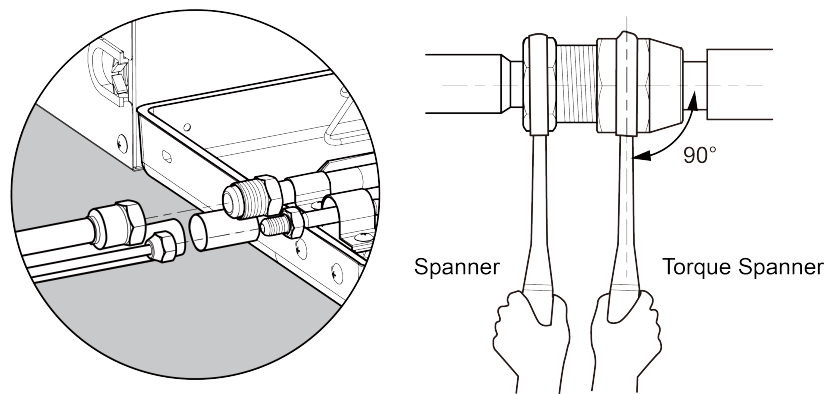

Fig. 3.4.1
- (1) Before welding the pipeline sealing cap, please make sure there's no refrigerant in pipeline. If welding it directly, it may cause unnecessary property damage or personal injury.
- (2) Conform to the following principles during pipe connection: Connection pipeline should be as short as possible. The height difference between indoor and outdoor units should be as short as possible. Keep number of bends as little as possible. The radius of curvature should be as large as possible.
- (3) Weld the connection pipes between indoor and outdoor unit. Please strictly conform to the requirements for welding process. Rosin joints and pin holes are not allowable.
- (4) When laying the pipes, be careful not to deform them. The radius of bending parts should be more than 200mm. The pipes can't be repeatedly bent or stretched, otherwise the material will get harden. Do not bend or stretch the pipe over three times at the same position.
- (5) Please use a torque wrench to connect union nut on the indoor unit. See the Fig. 3.4.1 as below.